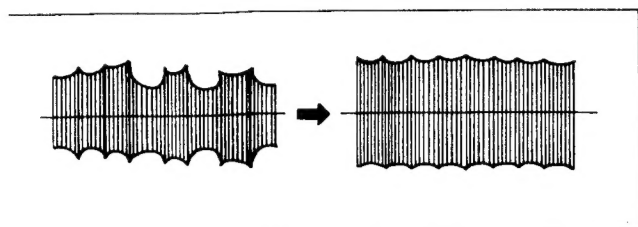
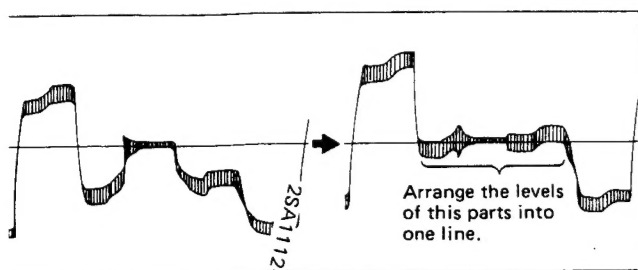

Fig. 5-15
Fig. 5-16
- Connect 10:1 probe of oscilloscope to pin (27) of IC302.
- Adjust T304 for the waveform shown in Fig. 5-15.
- Connect V.T.V.M. between pin (26) of IC302 and earth, and then adjust T307 so that the voltage become to maximum.
- Connect probe of oscilloscope to TP-64 and adjust T305 for the waveform shown in Fig. 5-16.